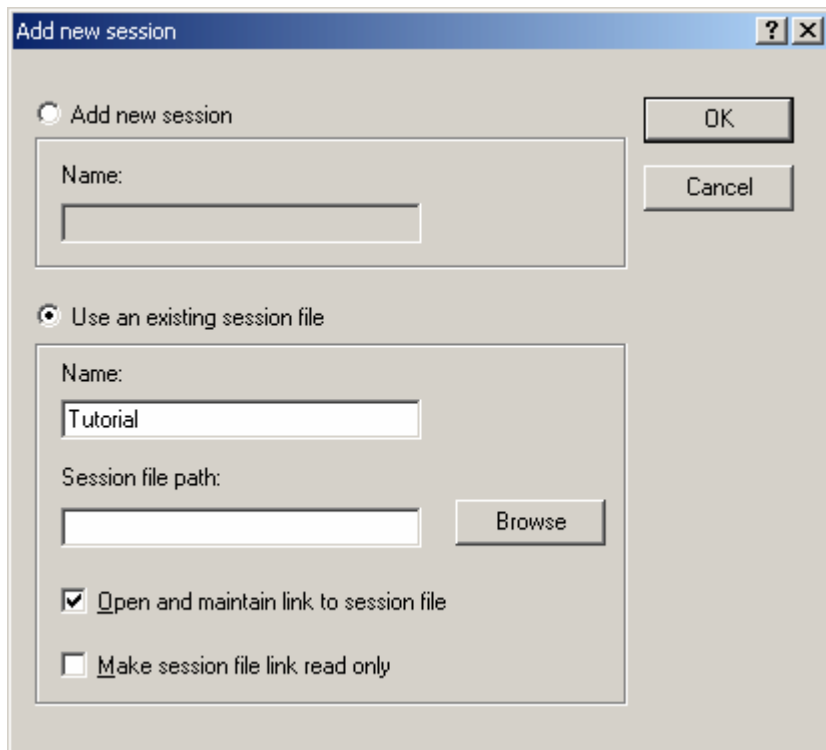

Figure 4.35 [Add new session] Dialog Box
2. Click the [Add...] button to display the [Add new session] dialog box (figure 4.35).